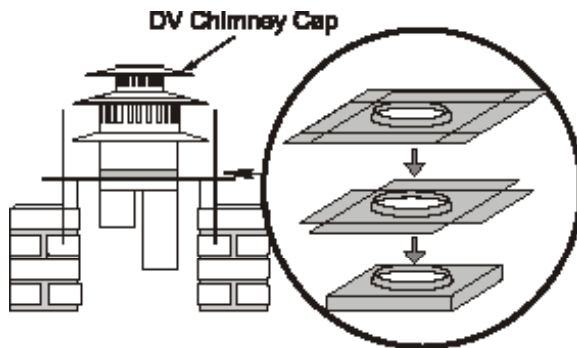

Figure 5. Center, measure, and notch the flashing.
STEP 3: Place the flashing around the chimney cap. Center the flashing on top of the clay tile. Mark the outline of the clay tile on the underside of the flashing. Notch the corners and bend over the excess at the marked outline using a pair of hand folders. See figure 5.